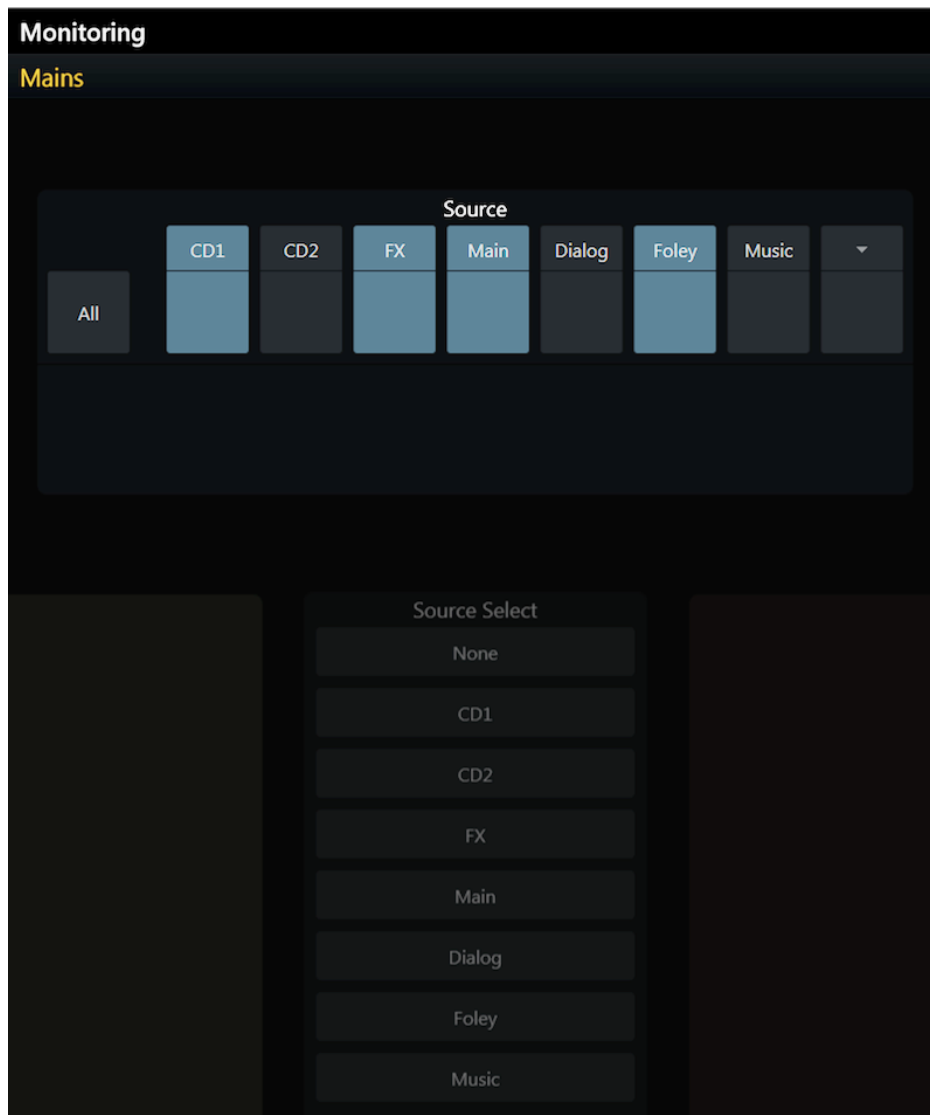

Figure 25. Monitoring screen with Sources on and off
- Blue sources are on, dimmed sources are off. In Figure 25 CD1, FX, Main, and Foley are on.